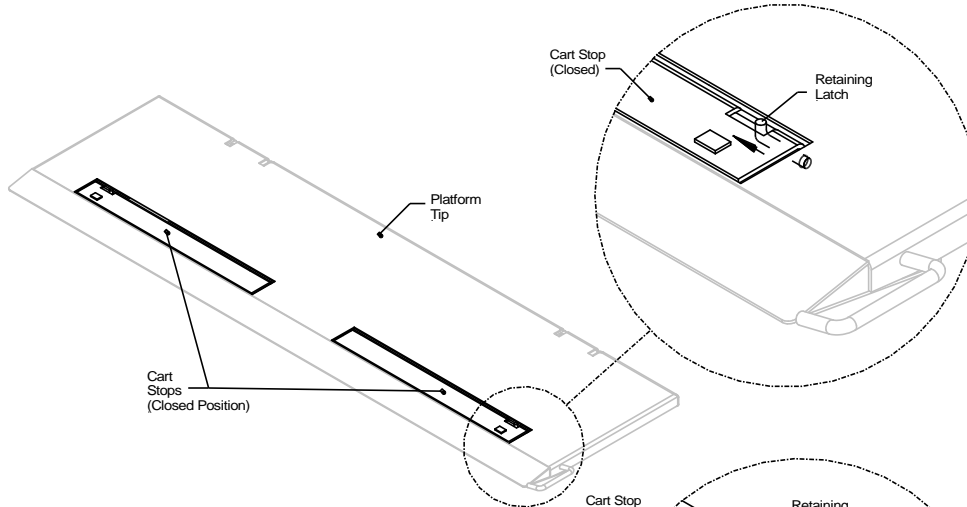
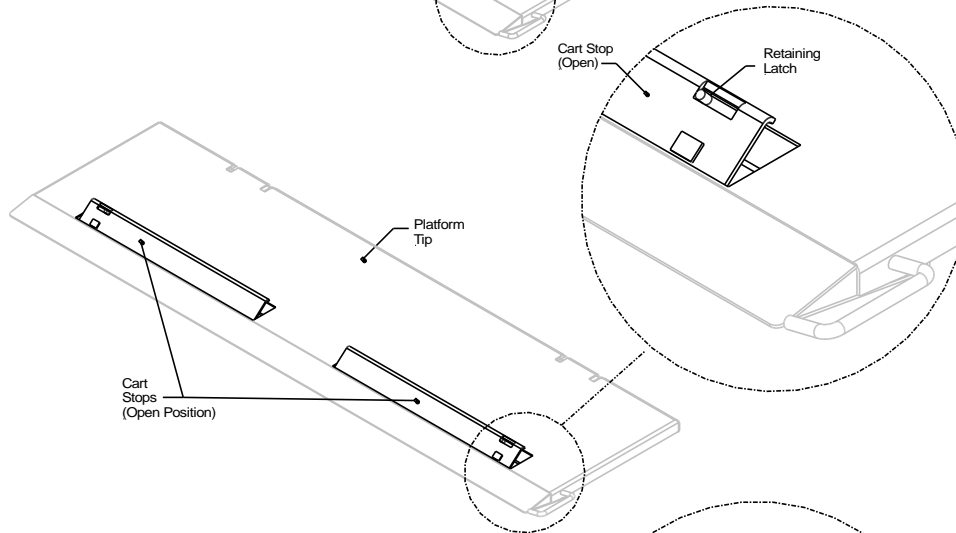

Fig.17
Fig.18
1. Each cart stop is equipped with a retaining latch. Push each latch inward to open the cart stop, **Fig.17**. The cart stop will automatically spring open once the latch has been pushed, **Fig.18**.